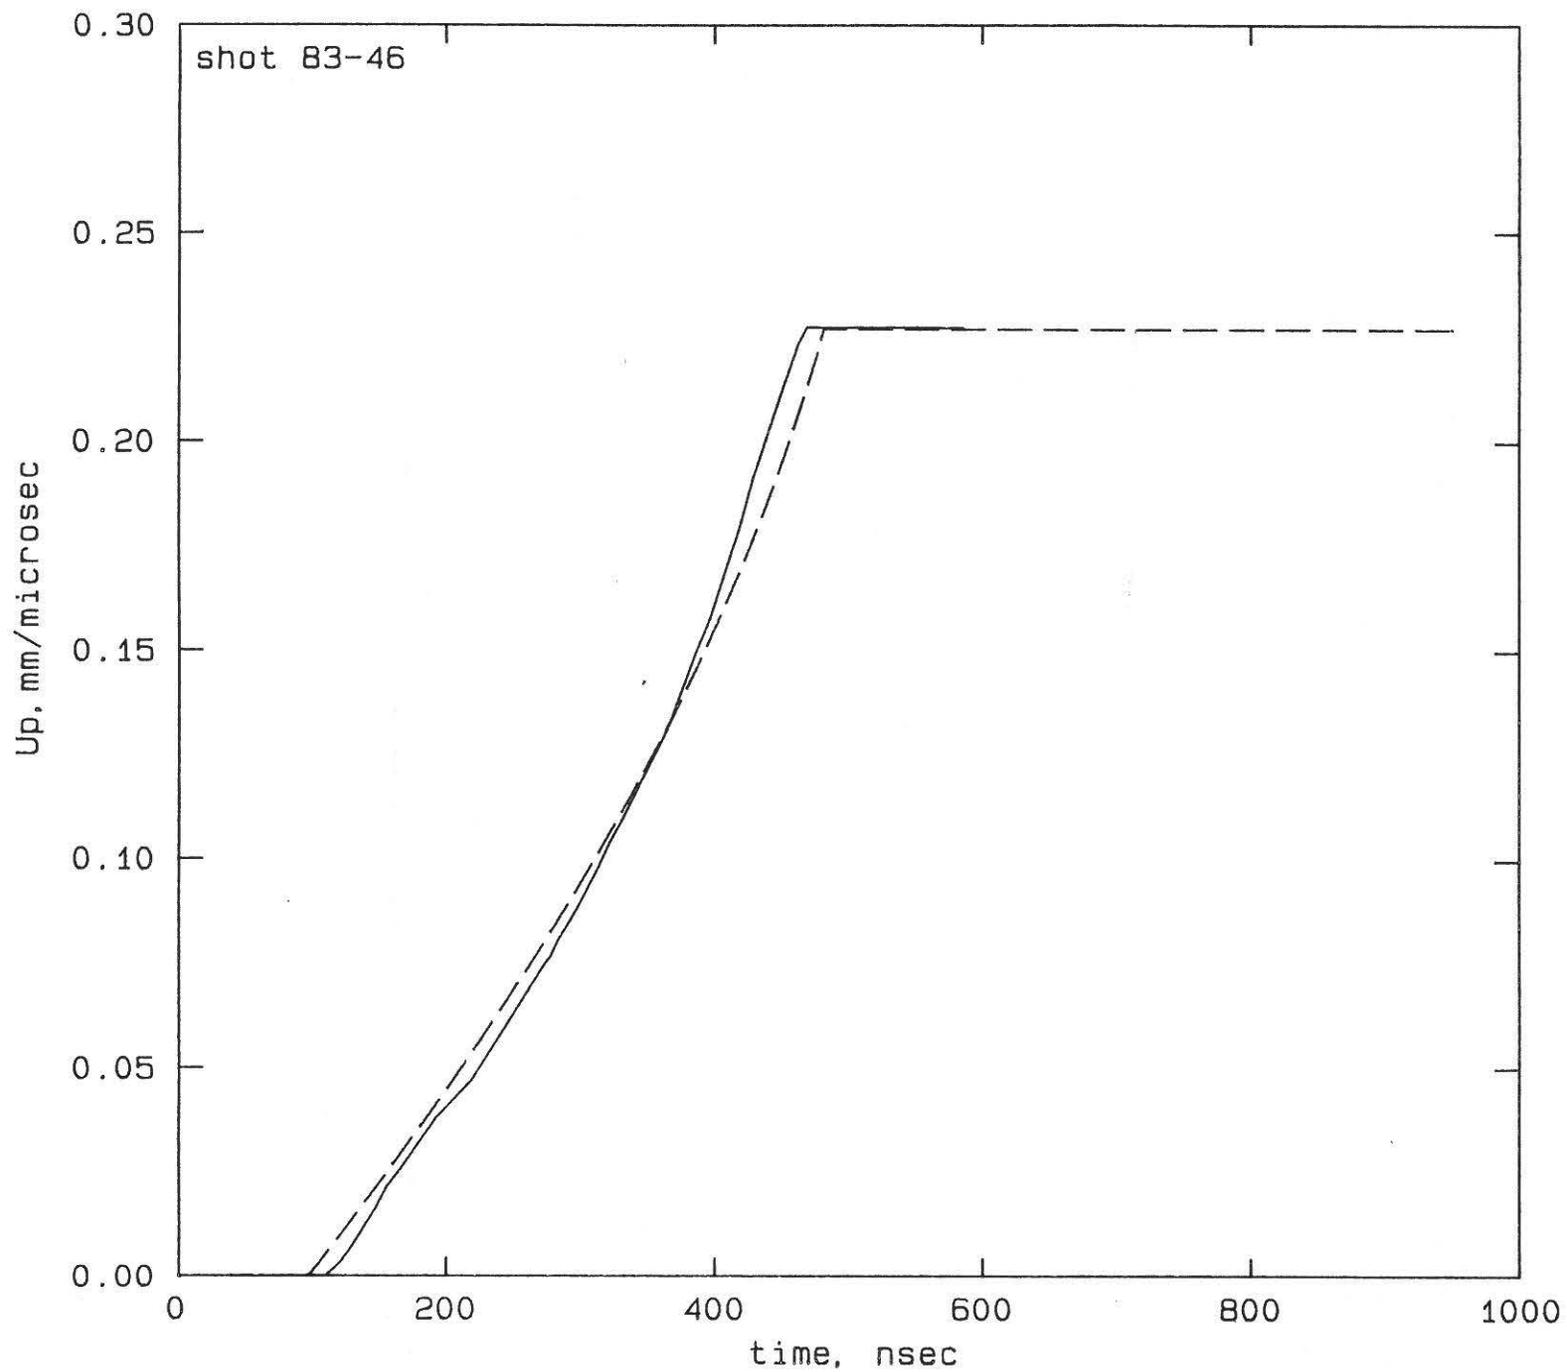

Figure 2.
- Fig. 2 Measured and calculated particle velocity profiles for fused quartz. Shot No. 83-46. ————— measurements from Ref. 1. ----- Calculated from Eqs. (1) and (2). Measurements and calculations are filed in /user/ged/QTZFUSED as s83-46plot and 83-46calc, respectively. This figure can be reproduced by entering the above directory and typing "graphit -m -r -0 s83-46plot 83q2" (First remove the comments at the ends of the two files.)